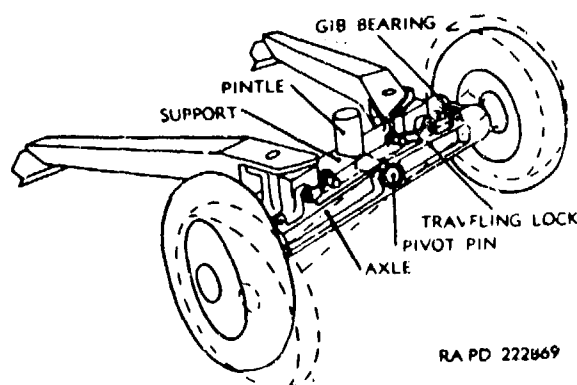

Figure 2-5. Equalizer.
**c. Equalizer.** Certain towed weapons are equipped with an equalizer (fig 2-5), a mechanical device that permits the four points of contact with the ground (the two wheels and two trail ends) to be in different planes. The equalizer compensates for irregularity of the terrain so that the weight of the weapon and the shock of firing are transmitted to the ground through all four points. The most common type of equalizer is a horizontal support secured to the axle by a horizontal pivot pin. The support, located behind the axle, can rotate through a small vertical angle about the horizontal pivot pin that secures the support to the midpoint of the axle. The trails are attached to the ends of the support. The horizontal pivot pin and the two trail spades provide the three-point suspension for stability of the weapon in firing. A pin (called a pintle) passes vertically through the center of the support and provides a pivot point about which the top carriage traverses. When the weapon is placed in the traveling position, the axle and support are locked together. Equalizers are generally used with light artillery carriages.